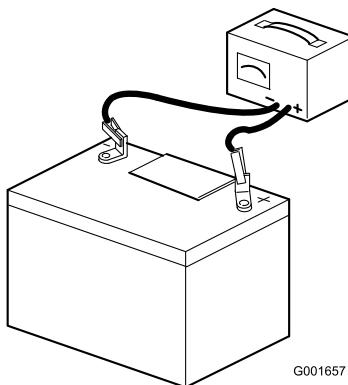

Figure 5
7. Connect a 3 to 4 amp battery charger to the battery posts (Figure 5). Charge the battery at a rate of 3 to 4 amperes for 4 to 8 hours.